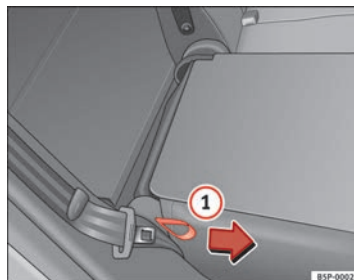

Fig. 100 Folding or opening the rear seat backrest
- Pull the loop on the side of the seat ⇒ Fig. 100 ① in the direction of the arrow and lift the seat backrest into position.